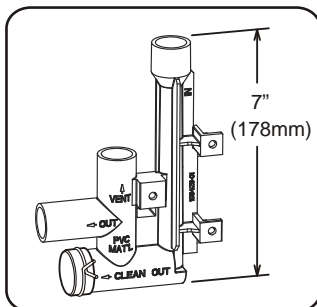

Figure 51. Trap / Drain Assembly using 1/2" PVC or 3/4" PVC
- 3 - Install the cap over the clean out opening at the base of the trap. Secure with clamp. See **Figure 51**.
- 4 - Install drain trap using appropriate PVC fittings, glue all joints. Glue the provided drain trap as shown in **Figure 51**. Route the condensate line to an open drain.